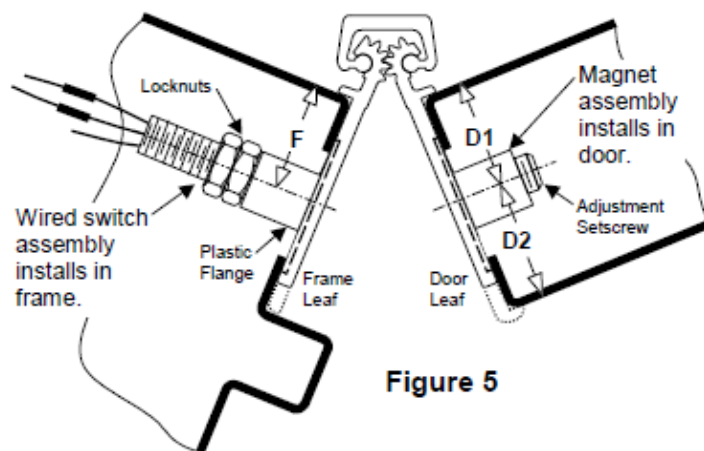

Figure 5
1. Locate the wired switch assembly. Peel the adhesive liner from the face of the flange. Attach it in the counter bore on the back of the hinge leaf that will be mounted to the frame. See Figure 5.
2. Locate the magnet assembly. Peel the adhesive liner from the face of the flange. Attach the magnet assembly in the counter bore on the back of the hinge leaf that will be mounted to the door. See Figure 5.
2. Connect the system wiring to the appropriate leads of the switch. See Figure 5. Insulate the bare end of any unused wires.